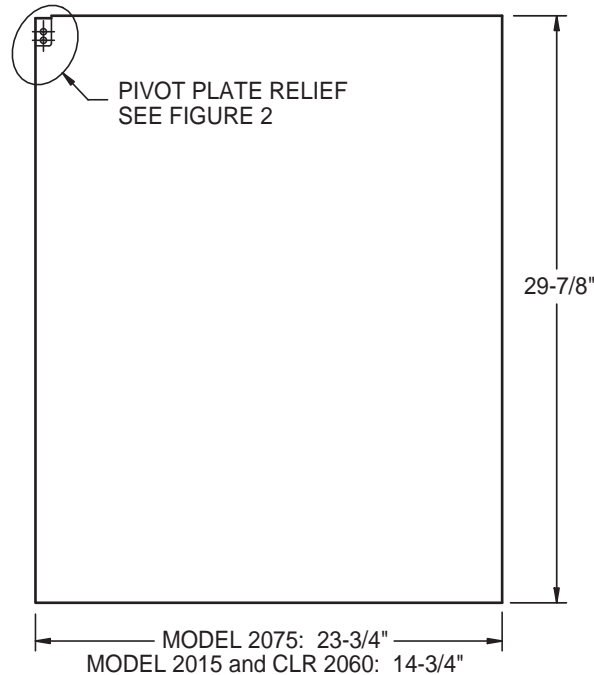

Figure 1
1. Cut door panel to proper size (**Figure 1**). Be sure to note which model the door will be used on.